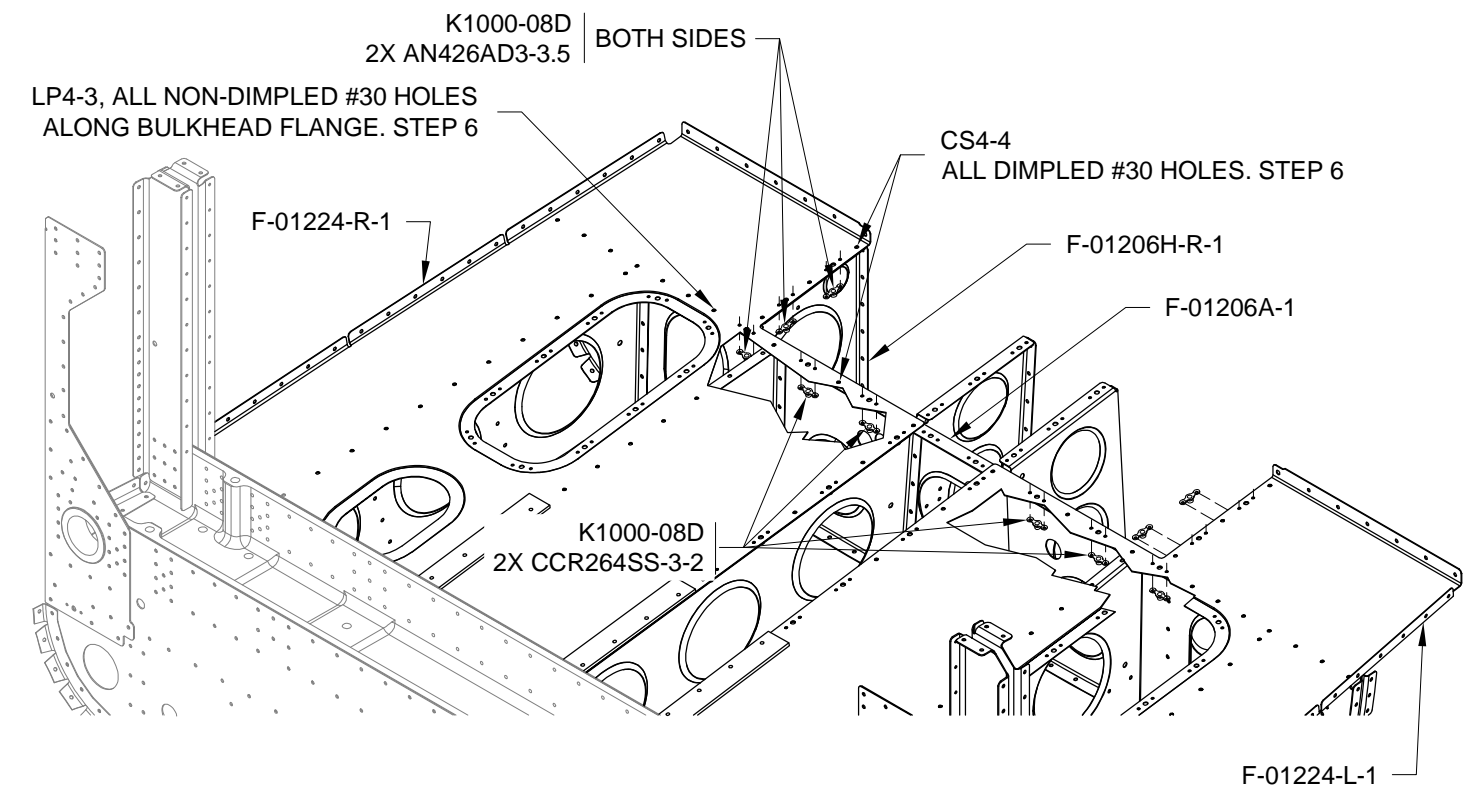

FIGURE 3: RIVETING NUTPLATES TO F-01224-L-1 & F-01224-R-1
Step 6: Rivet F-01224-L-1 & -R-1 to F-01206A-1 and F-01206H-L-1 & -R-1 using the rivets called out in Figure 3.